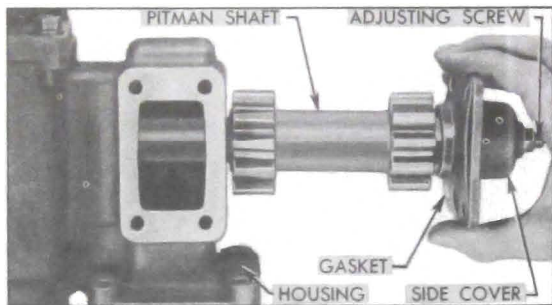

Figure 8-22—Removing Pitman Shaft and Side Cover
7. Turn steering shaft counterclockwise to move the ball nut to approximate center position, then remove the gear housing side cover and gasket with pitman shaft attached by the adjusting screw. See figure 8-22.